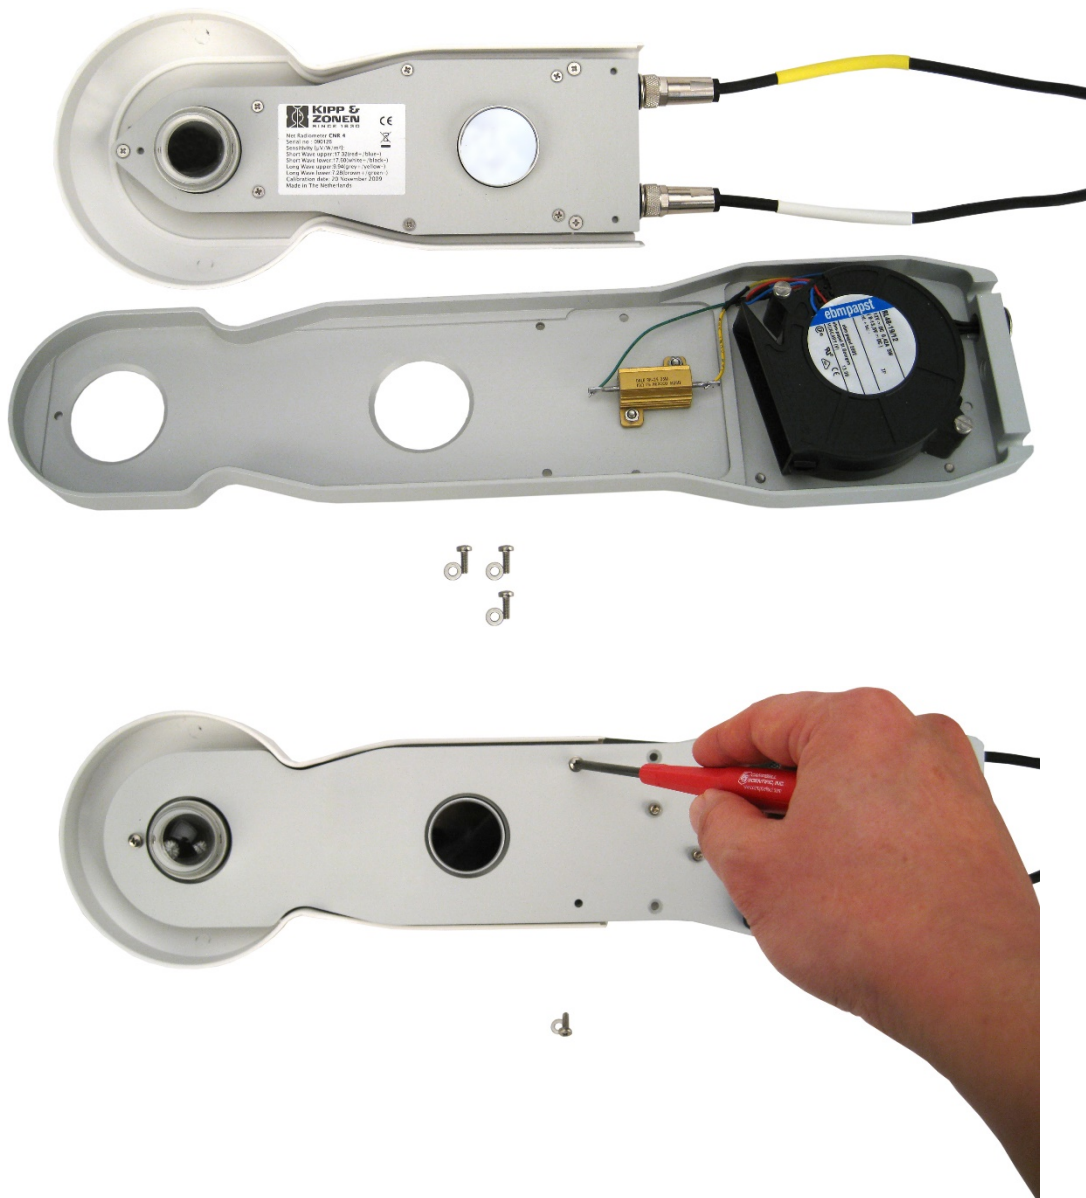

FIGURE D-2. Attaching the CNF4 to CNR4 using pan-head screws and washers
2. Attach the heater/ventilator unit unto the bottom of the CNR4 sensor, using the three pan-head screws and washers, as shown in FIGURE D-2. Make sure that the pyranometer and the pyrgeometer windows are not scratched during the installation.